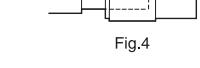

Fig.4
④ Press the connector body by a plier. (Refer to Figure 4)